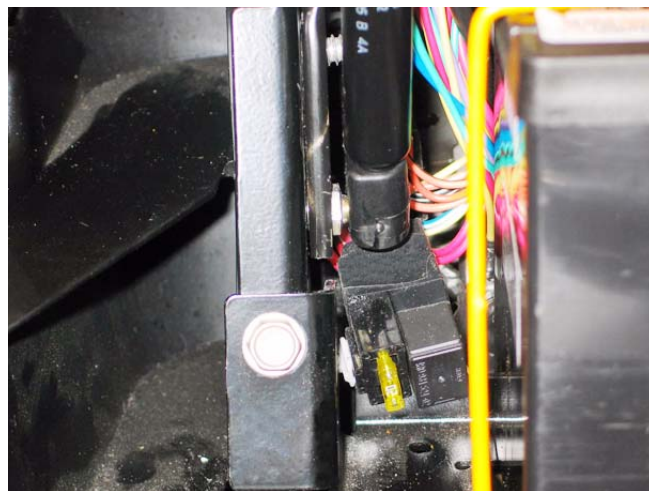

Figure 4.8
4.8. Hood installation notes: See Figure 4.8.